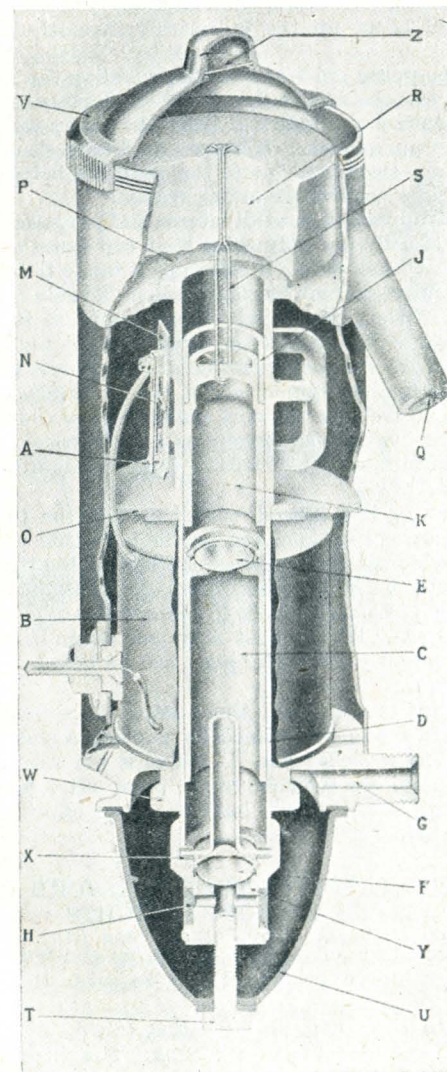

FIG. 27. SECTION THROUGH THE S.U. "PETROLIFT"
1. The pump plungers *C* or *K* (Fig. 27) sticking, due to dirt or grit getting between the pump plungers and the body. Often a blow on the pump with the fist is sufficient to get it working, when the dirt will pass right through. Should it not do so, the remedy is to remove the filter bowl *U* and foot valve *Y*, also the top cap of the pump and the cork float, when it will be possible to push the plunger *C* through the bottom, after which a clean rag can be drawn through the bore of the pump. Note, when assembling the plunger of the pump that valve *E* is on top.